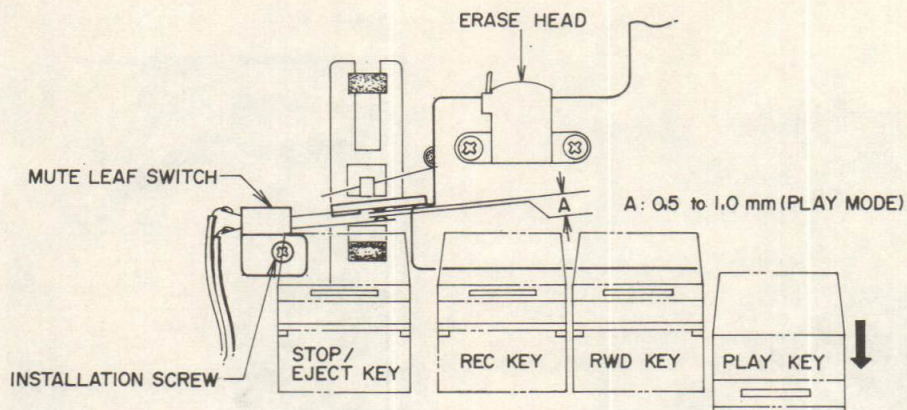

Fig. 8
1. MUTE LEAF SWITCH INSTALLATION POSITION ADJUSTMENT (Refer to Fig. 8)
When in the playback mode, the space A should be 0.5 to 1.0 mm as in Fig. 8. To adjust, turn the leaf switch installation screw.